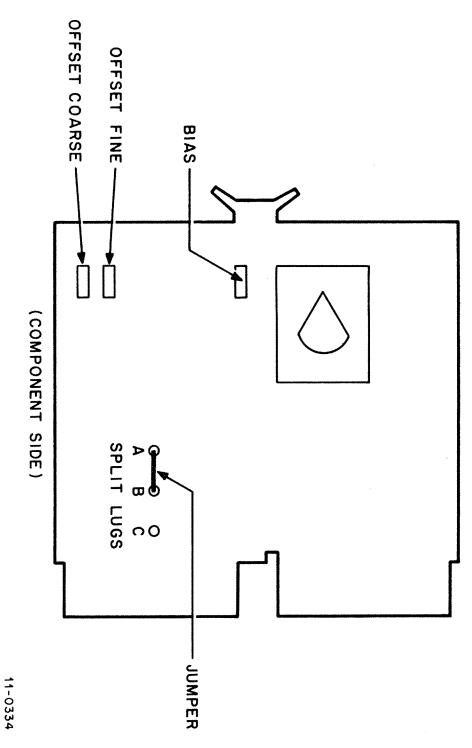

Figure 2-4 A405 Sample and Hold
- 2 Ensure that split lugs A and B on the A405 Module are connected (see Figure 2-4).
| 5    | Adjust bias potentiometer (see Figure 2-4) on A405 Module for 001 776g to 001 777g on console DATA indicators.            |
| 2    | Ensure that split lugs A and B on the A405 Module are connected (see Figure 2-4).                              |
| 5    | Adjust bias potentiometer (see Figure 2-4) on A405 Module for 000 001g to 000 000g on console DATA indicators. |